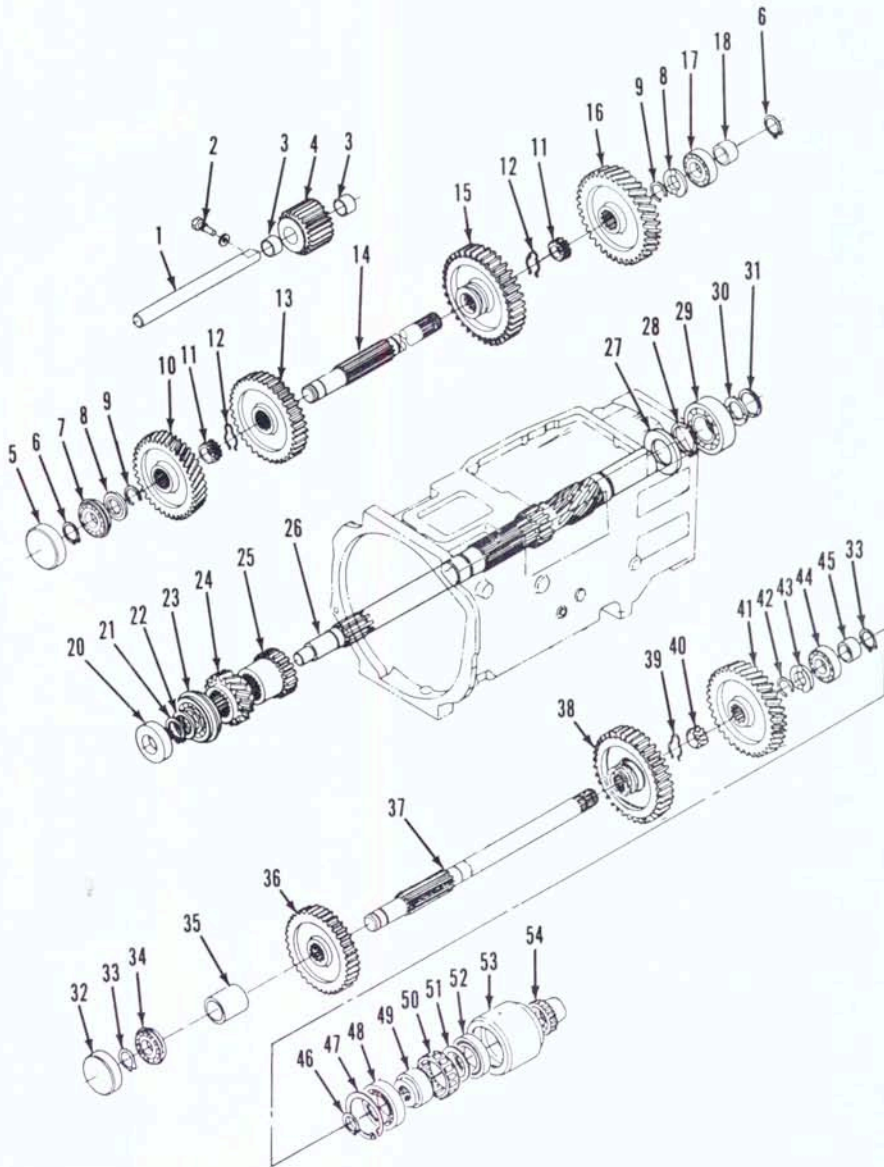
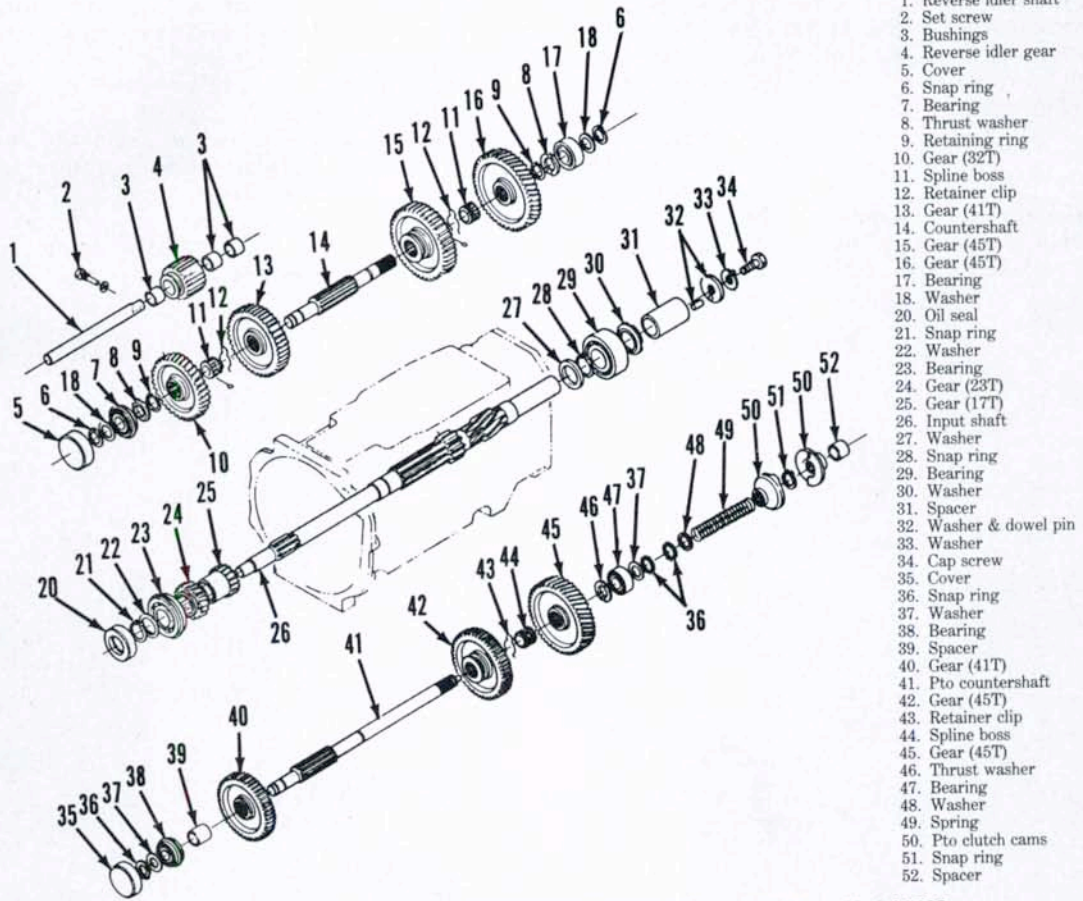

Fig. 99—Exploded view of gears and shafts located in front transmission housing on Models L185 and L245.
Fig. 100—Exploded view of gears and shafts located in front transmission housing on Model L295.
71. OVERHAUL. To disassemble main transmission, remove shift housing and forks. Remove clutch release bearing, fork and shaft, then unbolt and remove front oil seal retainer. Remove retaining rings from countershaft (14—Fig. 99 or 100), then tap shaft forward until front bearing is out of housing. Remove bearing retaining ring, then remove front bearing using a suitable puller. Tap countershaft rearward and withdraw gears as shaft is removed. Use a brass drift to tap input shaft (26) and bearings forward out of housing. Remove bearings and gears from shaft as necessary. Remove set screw (2) retaining reverse idler shaft (1), then withdraw shaft and gear. Remove set screw securing pto shift fork shaft, then tap shaft forward and remove shift fork. Tap pto countershaft (37—Fig. 99 or 41—Fig. 100) forward until front bearing is out of housing. Use a suitable puller to remove front bearing, then tap shaft rearward and withdraw gears and pto drive one-way clutch assembly.